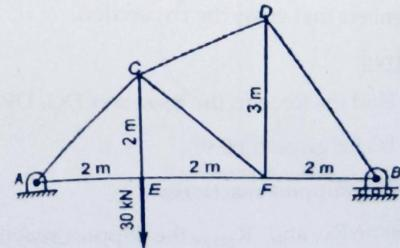

Fig 2.101
- 3) A plane truss having a point load of 30kN at E as shown in fig 2.101. Find by method of section the magnitude and nature of forces in the members CD, CF and EF. (Ans: R_A= 20kN, R_B= 10kN, CD= 7.454kN, CF= 18.86kN, EF= 20kN)